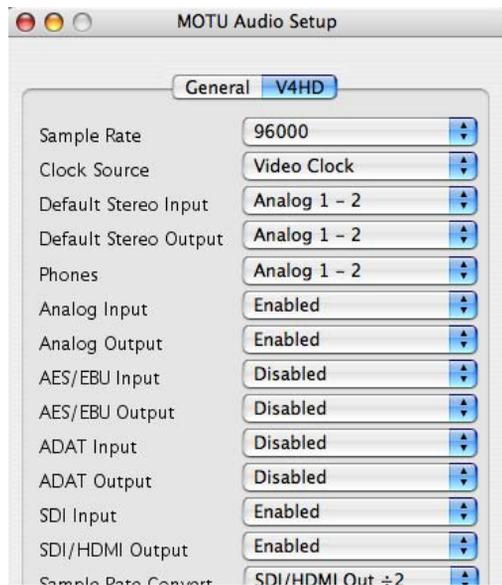

Figure 7-8: The top to bottom order of the audio banks listed in MOTU Audio Setup is how they are ordered in Final Cut Pro.
In the above example (Figure 7-8), the analog and SDI banks are enabled. This means that the V4HD will supply 16 channels of audio input and output to Final Cut Pro. Channels 1-8 are the analog ins and outs; channels 9-16 are the SDI ins and outs. If the AES/EBU bank is enabled, channels 9-16 would be the AES/EBU channels. It is a good idea to only enable the audio banks you are using.
- 1 Enable and disable the V4HD's four audio banks as desired (Figure 7-8).
The channels in the list (Figure 7-9) correspond to the V4HD audio banks currently enabled in MOTU Audio Setup (Figure 7-8), as explained earlier in “Choosing audio banks”.